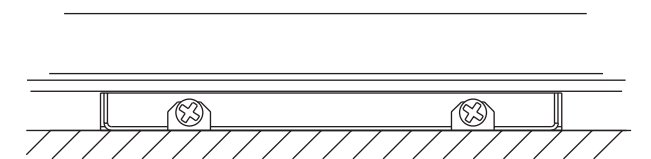

Figure 9
10. Tighten 2 clamp screws evenly. See Figure 9